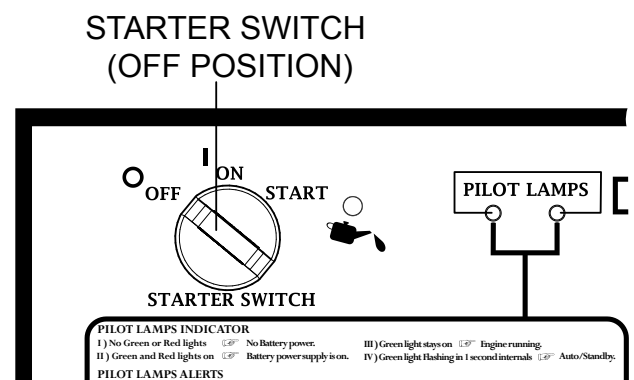

Figure 15. Starter Switch (OFF)
- Turn the starter switch to the **OFF** position (Figure 15).